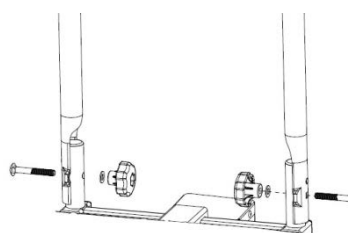

Figure 2: Assembly of U-shaped bracket
Place the U-shaped bracket (4) on the fixture sleeves of the bicycle rack and screw firmly into place, using the lock screws (3), washers (2) and knob nuts (1) as shown on Figures 2 and 3.